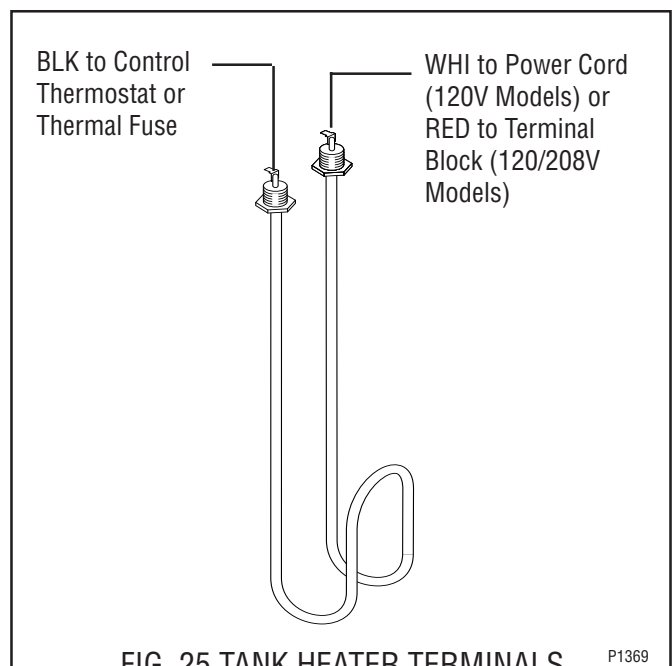

FIG. 25 TANK HEATER TERMINALS
15. Refer to Fig. 25 when reconnecting the tank heater wires.